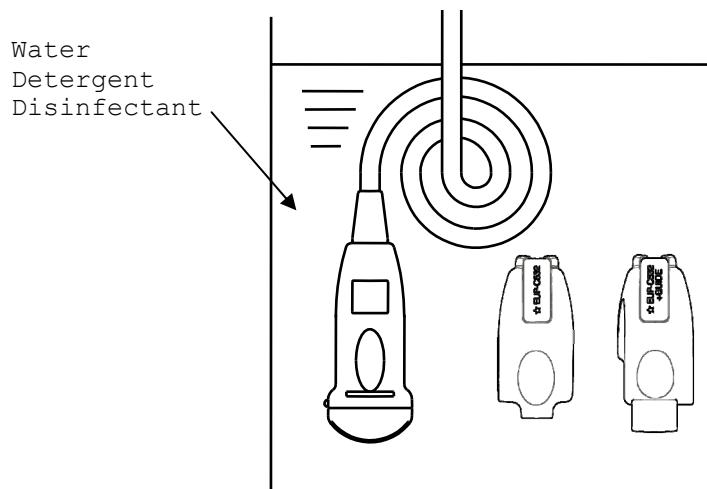

Fig. 8 Immersion of the probe and the Magnetic sensor attachment
- 2) Immerse the immersible part of the probe without connector into the diluted detergent solution (see Fig. 8). Wipe the immersible part of the probe under the surface of the detergent solution with a soft cloth to remove all visible soil. Be sure that all grooves of the probe are implemented during the cleaning process.
- 5) Rinse the probe with running tap water for 1 minute. (alternatively: immerse the immersible part of the probe in a tray filled with deionized water/tap water (see Fig. 8) for 5 min.)
- 4) Rinse the Magnetic sensor attachment with running tap water for 1 minute. (alternatively: immerse it in a tray filled with deionized water/tap water (see Fig. 8) for 5 min.)
- 3) Immerse the immersible part of the probe into the disinfectant (see Fig. 8). Set a clock to insure the recommended contact time which is 5 minutes.
- 4) Rinse the immersible part of the probe with deionized water for 1 minute. (alternatively: immerse the immersible part of the probe in a tray filled with deionized water (see Fig. 8) for 5 min.)
- 2) Immerse the Magnetic sensor attachment into the disinfectant (see Fig. 8). Set a clock to insure the recommended contact time which is 5 minutes.
- 3) Rinse the Magnetic sensor attachment with deionized water for 1 minute. (alternatively: immerse it in a tray filled with deionized water (see Fig. 8) for 5 min.)